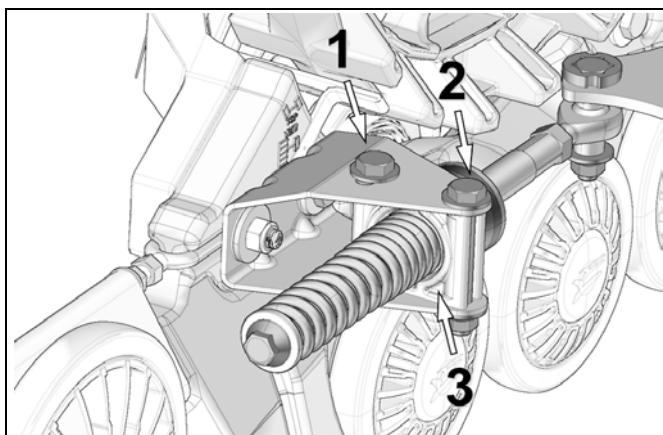

Figure 10
- Loosen anti-rotation bracket bolts (1) and (2) to allow the anti-rotation retainer (3) to rotate on its axis. See Figure 10.